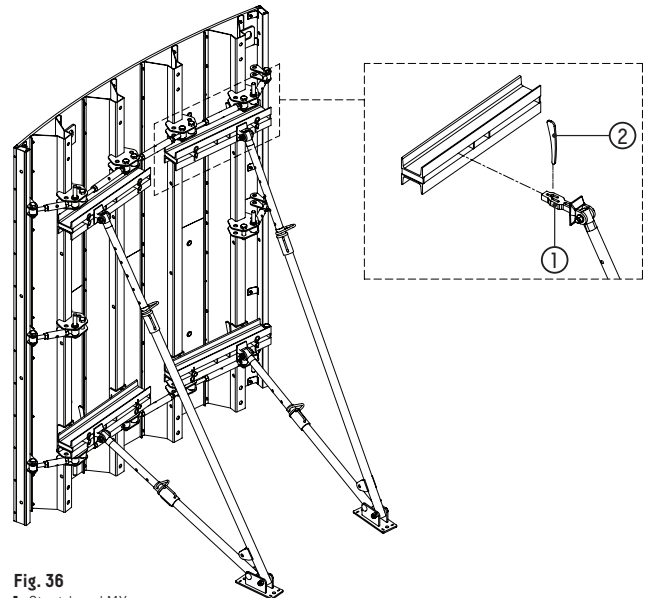

Fig. 36
- Props attached to the **CIRCA-FLEX** transom by the use of strut head MX on push-pull prop (Fig. 36)